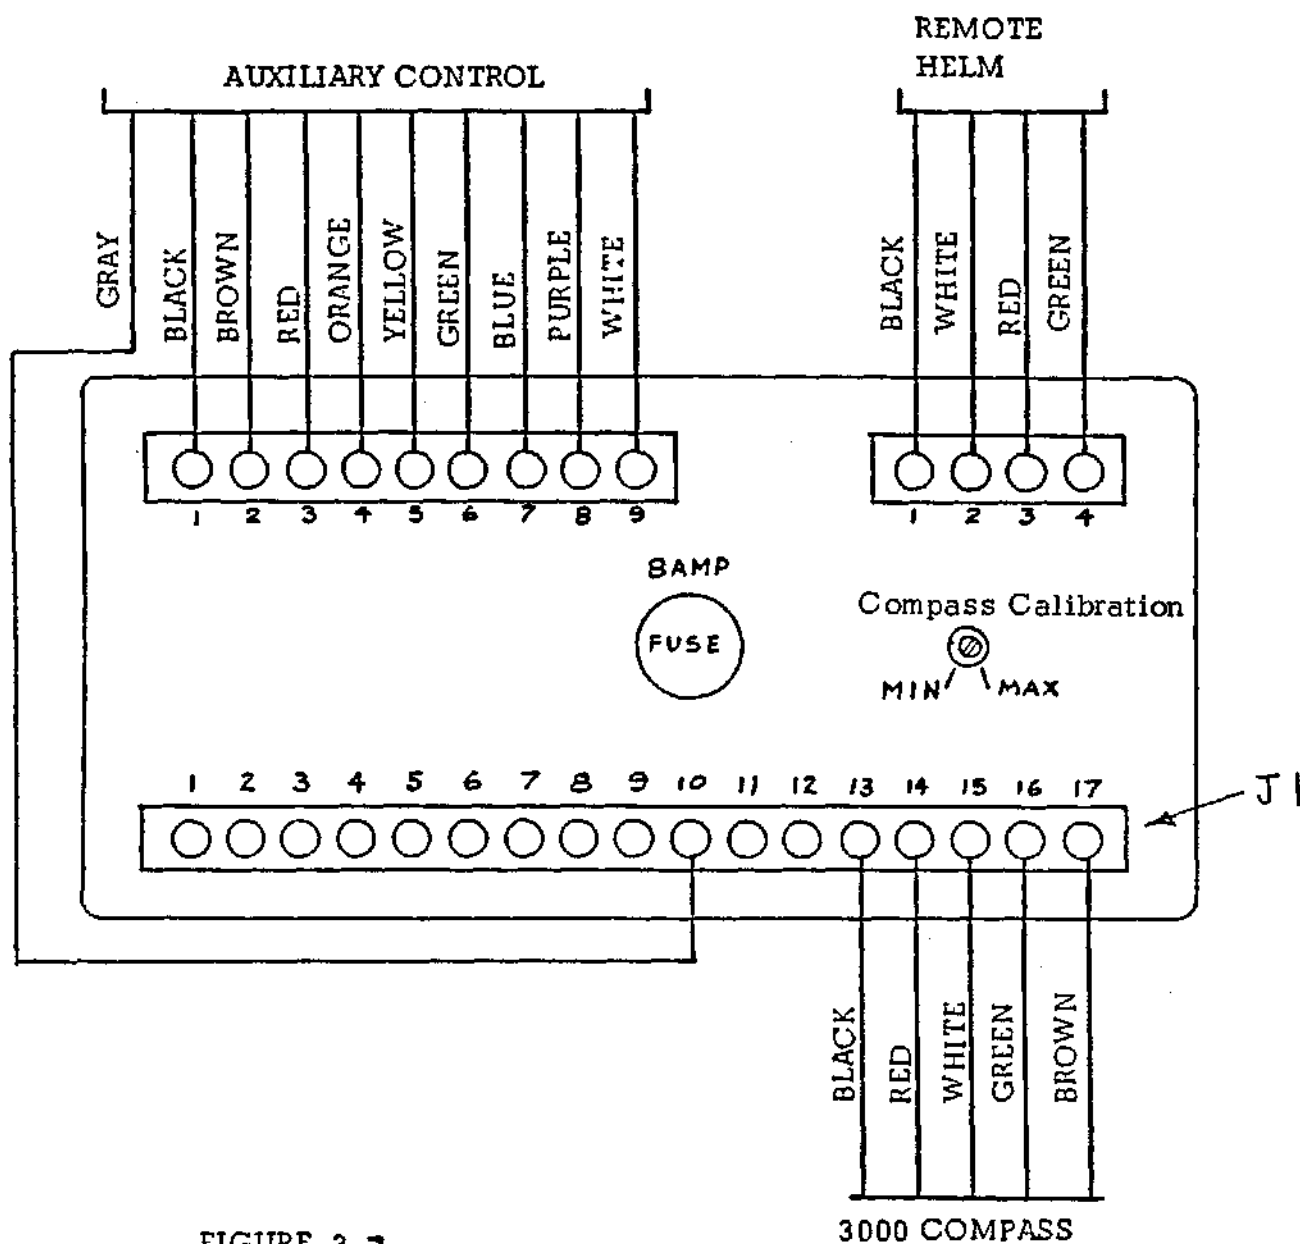

FIGURE 3.7
- B. Connect the Compass Electronics to the Control Unit using AMS cable #CC44X0 (X0 denotes cable length in feet and are available in 10' increments to 90 feet). The compass end is secured using two screws in the connector and must be fully seated for reliable contact. The control unit end is connected as shown in Fig. 3.7.
6. Set the compass calibration to MIN (refer to fig. 3.7) and sea-test the system with the Yaw set to the mid-travel position. While sea testing, slowly turn the compass calibration pot toward MAX. When the boat starts to "S", back the adjustment toward MIN about 1/8 of a turn.